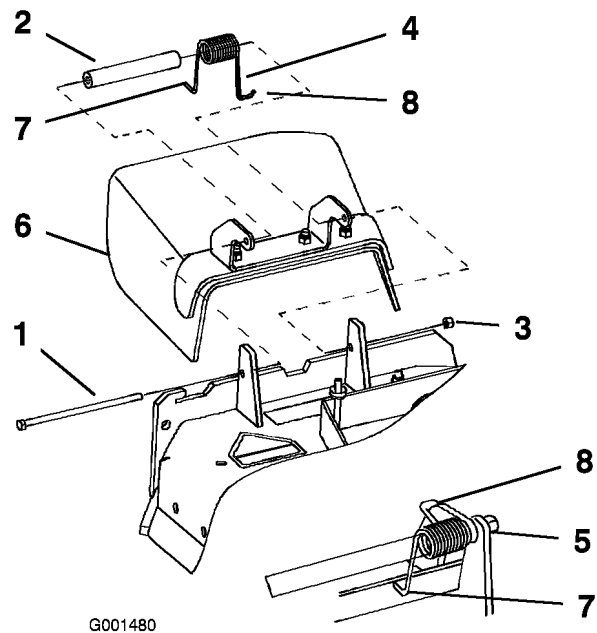

Figure 64
- Remove the locknut, bolt, spring and spacer holding the deflector to the pivot brackets (Figure 64). Remove damaged or worn grass deflector.
Note: Make sure the L end of spring is installed behind deck edge before installing the bolt as shown in Figure 64.
- Install bolt and nut. Place the J hook end of spring around grass deflector (Figure 64).